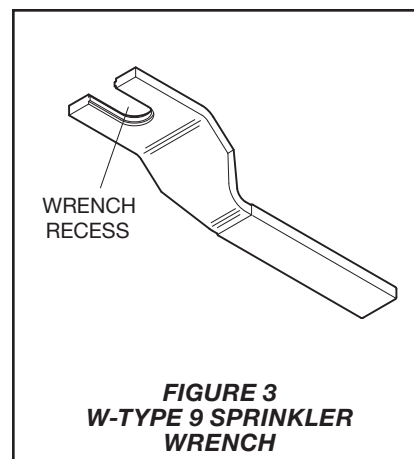

FIGURE 3
Step 3. Tighten the sprinkler into the sprinkler fitting using only the W-Type 9 Sprinkler Wrench as shown in Figure 3. Apply the wrench to the wrench area as shown in Figure 1 or 2.